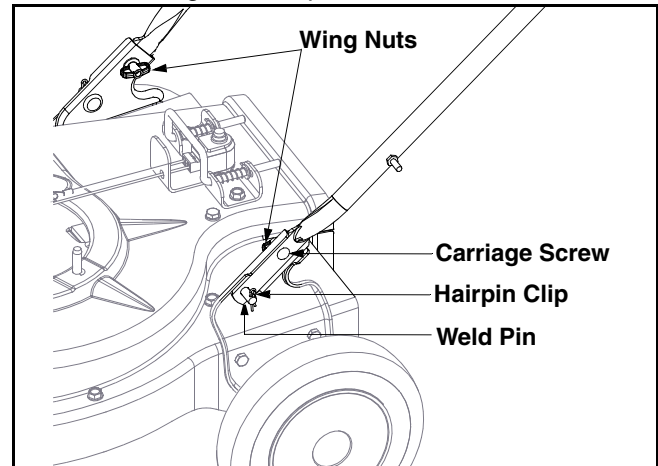

Figure 2
- Remove hairpin clips from the handle brackets on the chipper shredder vacuum. See Figure 2.
- Place bottom hole of the lower handle over weld pin on the handle bracket as shown in Figure 2. Secure with a hairpin clip removed earlier. Repeat on the other side.
- Insert carriage screw, removed earlier, through the upper hole in the lower handle and secure with wing nut. See Figure 2. Repeat on the other side.